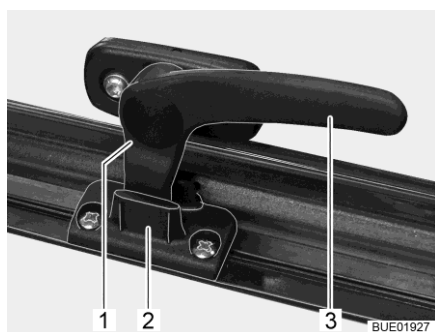

Fig. 18 Catch lever in "continuous ventilation" position
- "Continuous ventilation" (Fig. 18)
- Turn the catch lever (Fig. 18,3) a quarter turn towards the centre of the window.
- Turn the catch lever a quarter turn towards the window frame. The locking catch (Fig. 18,1) has to be moved into the recess of window catch (Fig. 18,2).